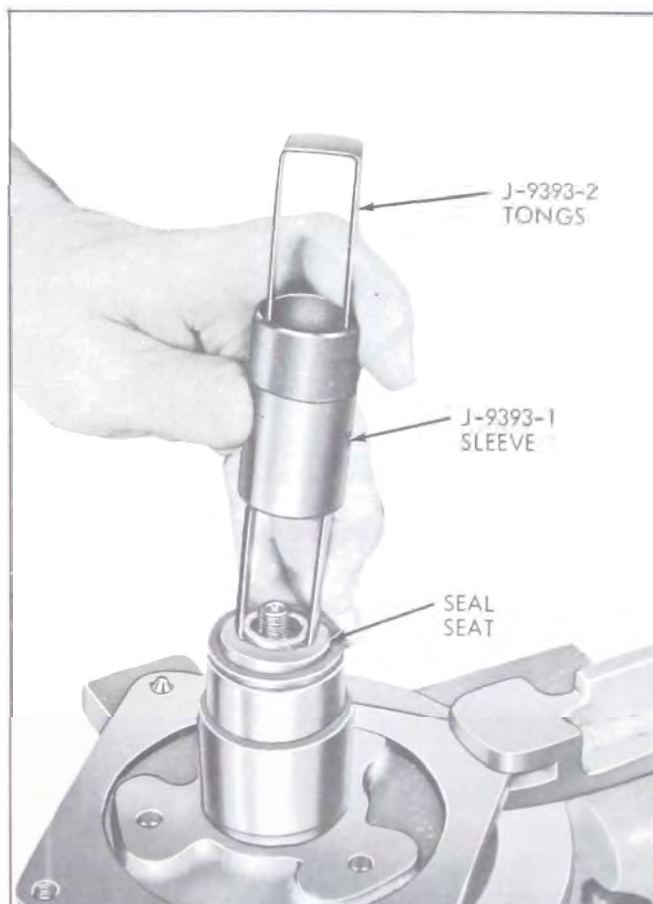

Figure 11-50—Removing Shaft Seal Seat
3. Remove shaft seal seat, using J-9393-1 and 2 to grasp flange on seal seat. See Figure 11-50. Pull straight out at end of tool to remove seal seat.